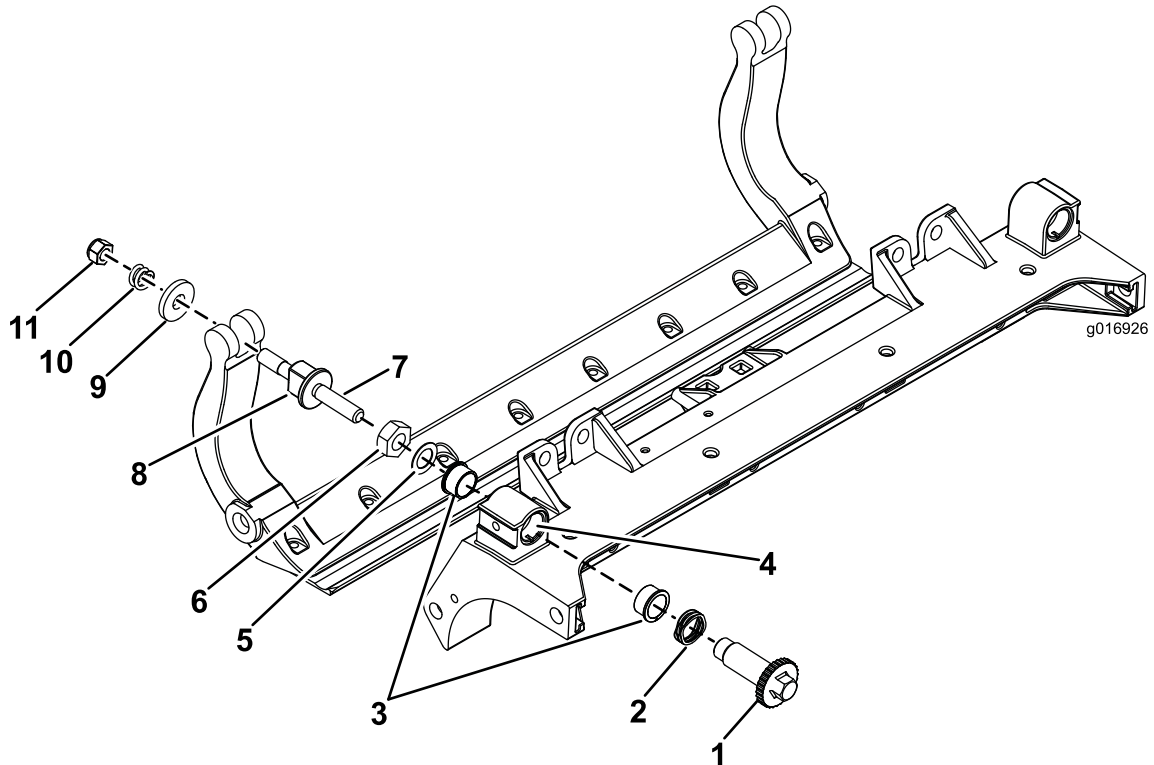

Figure 36
1. Remove all parts (refer to the *Installation Instructions* for the HD DPA Kit (Model No. 120-7230) and to Figure 36).
2. Apply anti-seize compound to the inside of the bushing area on the carrier frame of the cutting unit (Figure 36).
3. Align the keys on flange bushings to the slots in the frame and install the bushings (Figure 36).
4. Install a wave washer onto the adjuster shaft and slide the adjuster shaft into the flange bushings in the cutting unit frame (Figure 36).
5. Secure the adjuster shaft with a flat washer and lock nut (Figure 36). Torque the lock nut to 20 to 27 N-m (15 to 20 ft-lb).
Note: Position a nylon washer on each side of the side plate boss. Place a steel washer outside each of the nylon washers (Figure 36).